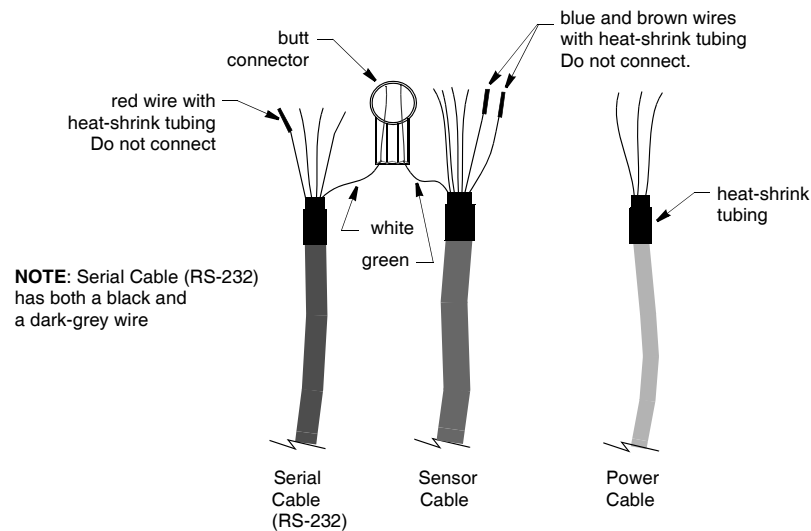

Figure 6. Using the butt connectors
1. Make the connections using the supplied butt connectors. See Table 1 on the next page and insert the end of the first colored wire from the Serial Cable (RS-232) into one of the holes in a butt connector (see Figure 6). *Do not remove the colored insulation.*